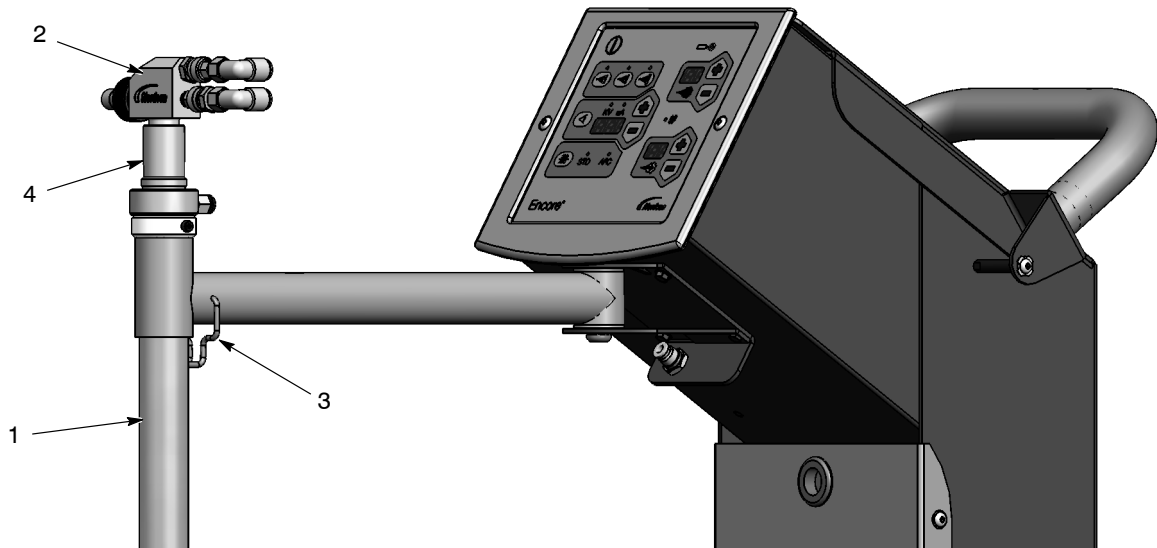

Figure 3-7 Encore LT Gun Pickup Tube and Pump Installation
4. See Figure 3-7. Swing the tube bracket out of the way and install the pickup tube (1) in the arm.
5. Install the pump (3) into the pump mount (2) with a slight twisting motion.